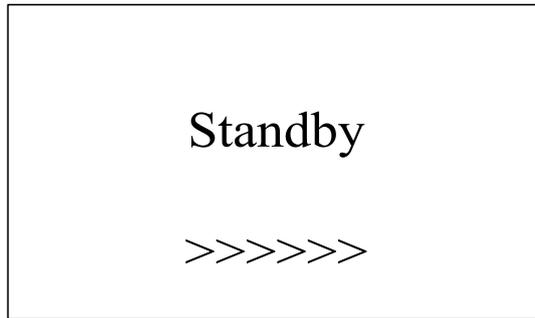

Figure 5-7 Inverter system in standby
(2) Standby mode, as shown in Figure 5-7: